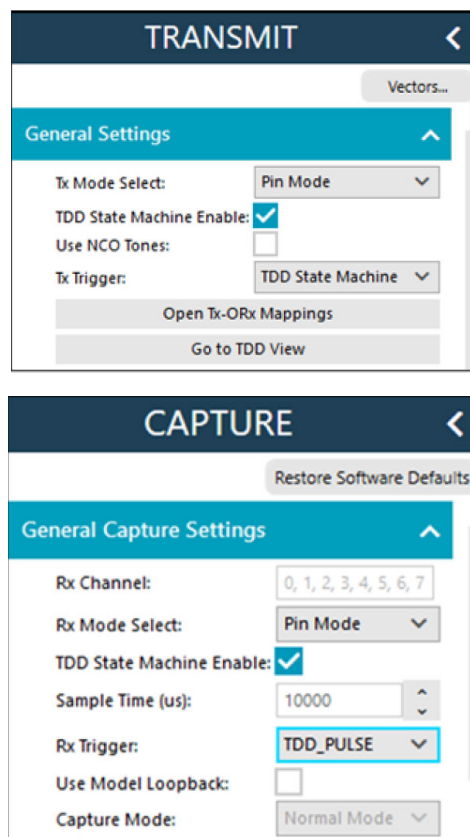

Figure 63. Runtime Pages Updated to Trigger Data Source and Capture Using the TDD State Machine for Rx
3. Click **Configure** to configure the TDD state machine using the specified timings. This enables the TDD state machine (the **Enable TDD FSM** checkbox). To perform data sourcing and capture in TDD mode, the user must additionally modify capture settings on the **Runtime** pages, as illustrated in Figure 63.